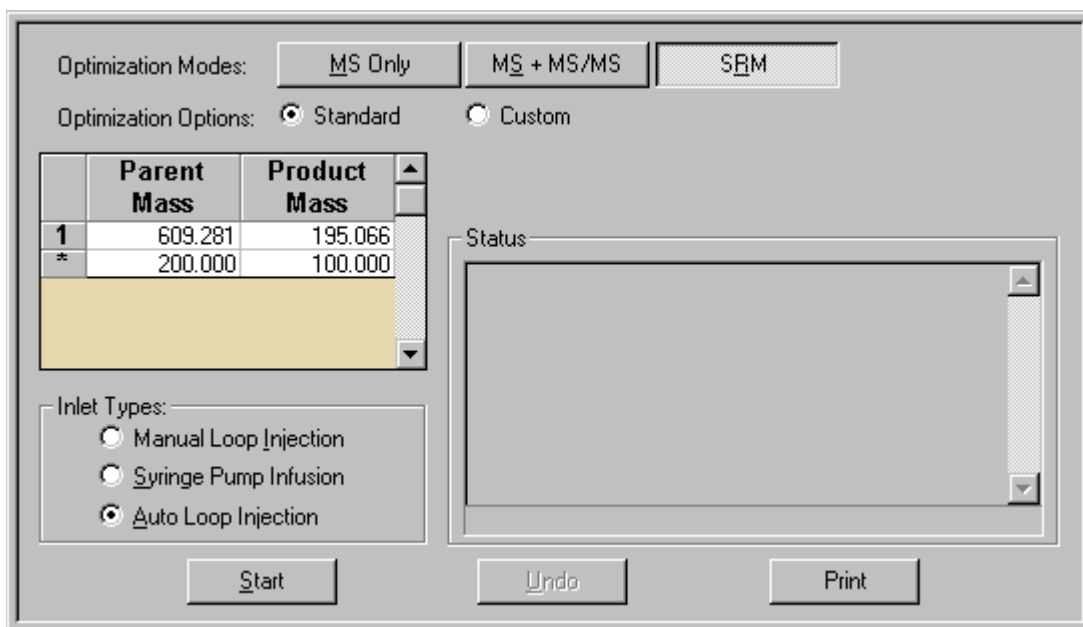

Figure 7-10. Compound Optimization view
- a. In the Compound Optimization view in the top left corner of the workspace, select **Optimization Modes: SRM** to enable you to optimize a selected reaction. See Figure 7-10.